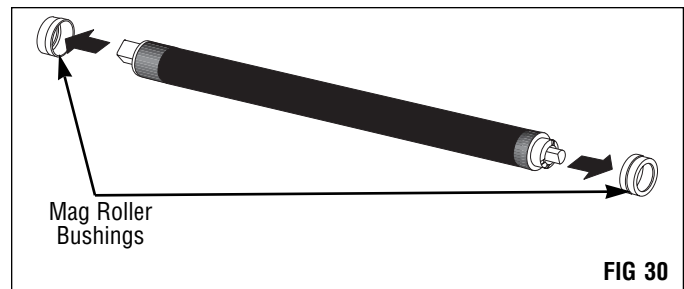

FIG 30
6. Remove the mag roller bushings from the mag roller (FIG 30).